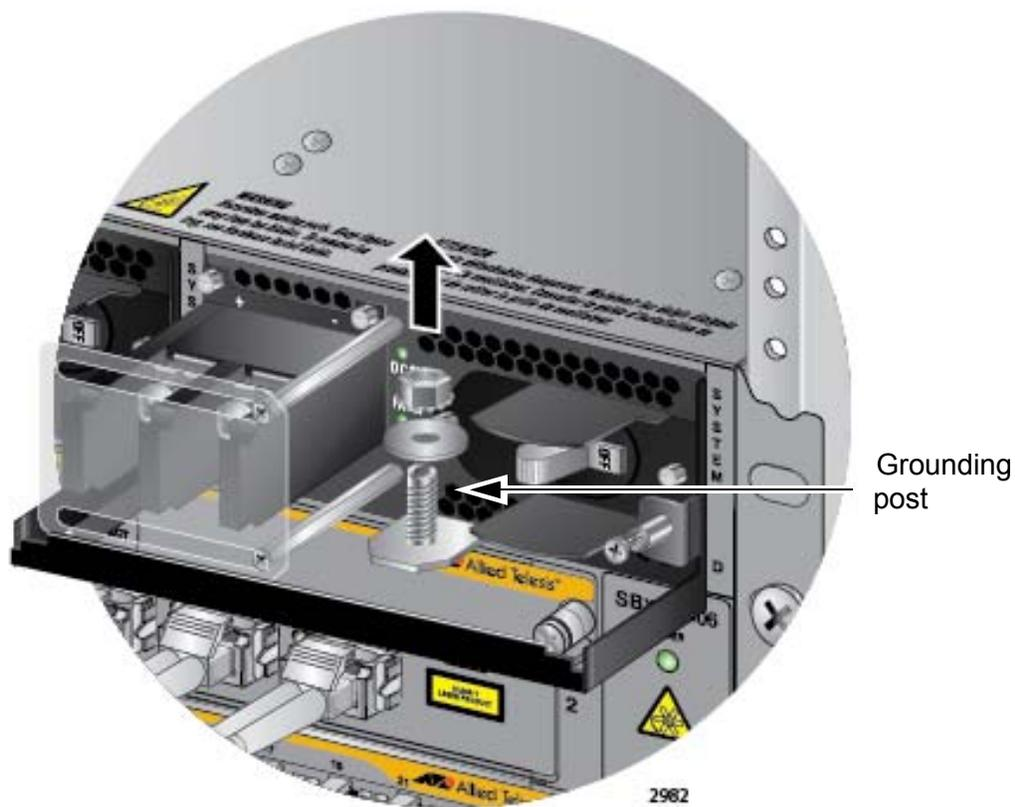

Figure 107. Removing the Nut and Washer from the Grounding Post
3. Use an 8 mm wrench to remove the grounding post nut and washer, shown in Figure 107, from the power supply.
2. Use an 8 mm wrench to remove the grounding post nut and washer, shown in Figure 107 on page 154, from the grounding post on the power supply.